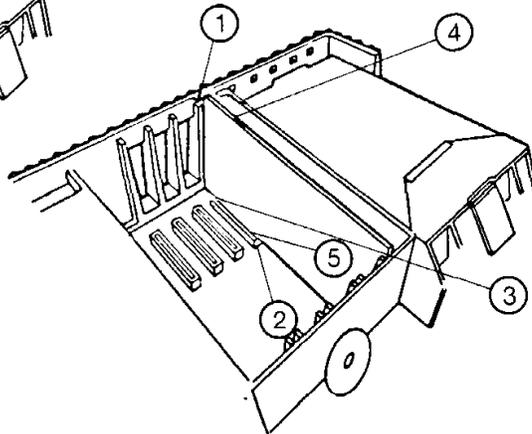

FIGURE 5
11. Slide the front of the edge connector into the card guide behind slot 4. (Figure 5, Item 1). Make sure the card enters the card guide straight up and down.
12. Slide the interface card into slot 4. (Figure 5, Item 2). Slide the card down until the edge connector begins to enter the connector slot. (Figure 5, Item 3).
NOTE: As you slide the card down into the slot, you will notice that the card may tighten up in the slot. At this point you may have to rock the card back and forth by gently pushing down on the end of the card next to the back of the Apple III (Figure 5, Item 4), then on the front again until the card is completely in the slot. You can tell the card is fully inserted when the top of the edge connector is flush with the top edge of the slot. (Figure 5, Item 5).